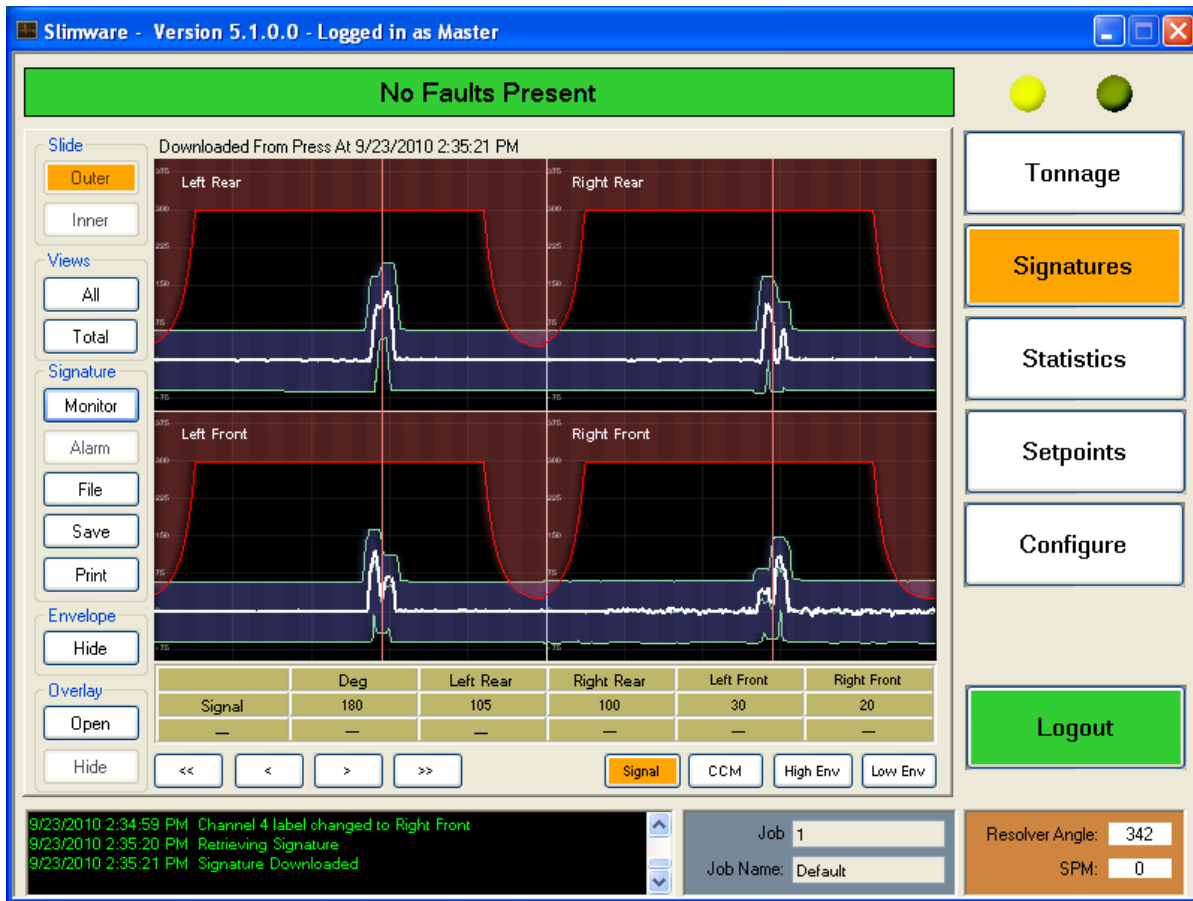

Figure 2-6: Signature Screen
Figure 2-6 shows a typical four (4) channel signature with enveloping. Operators can analyze the signatures from each stroke and determine if there are problems such as excessive tonnage early or late in the stroke.